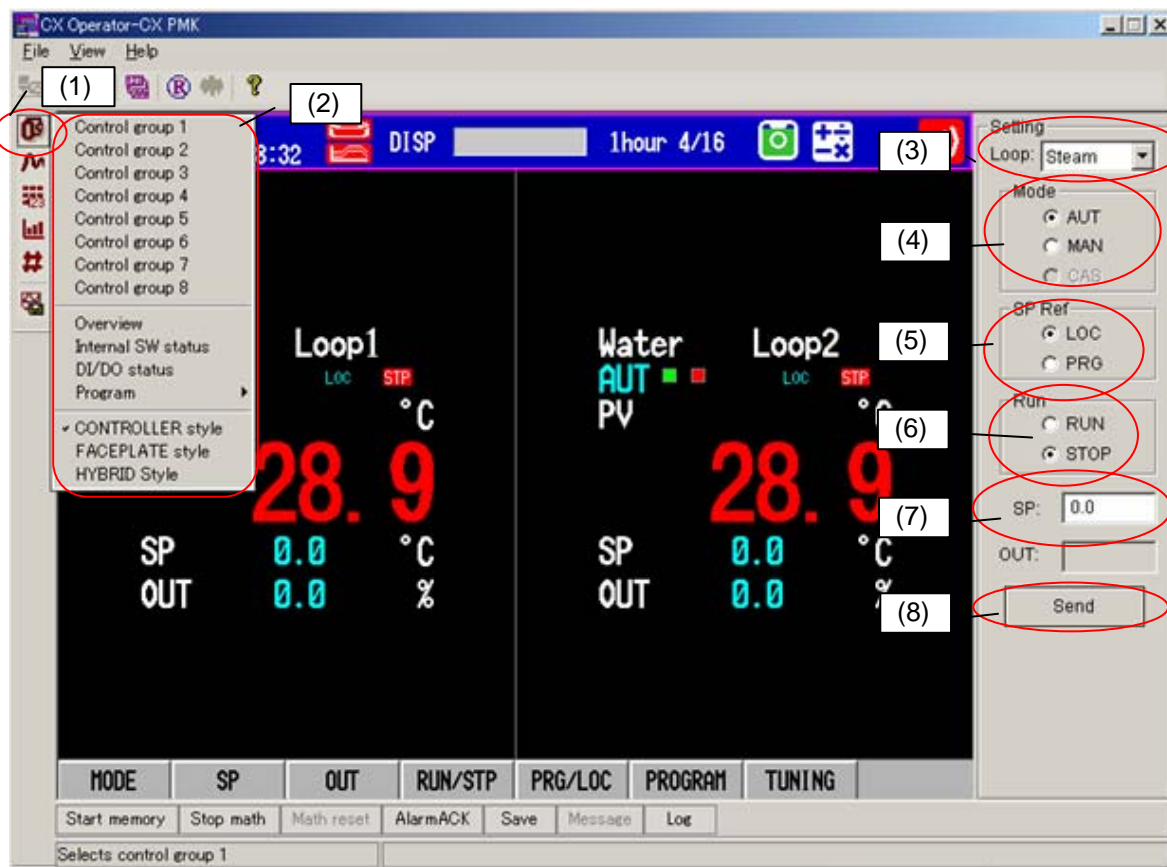

Figure 6 Control related screen
When the “program” is selected in figure 6 (2), a program selection screen is displayed (figure 7).